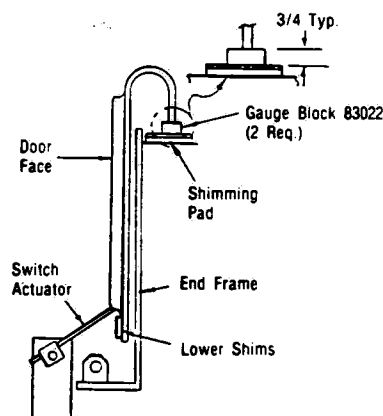

Figure 7-6. ADJUSTMENT OF DOOR LIMIT SWITCHES.
- a. Use two gauge blocks, P-83022-001. Place one block on each of the upper door shimming pads, resting on shims. See Figure 7-6.